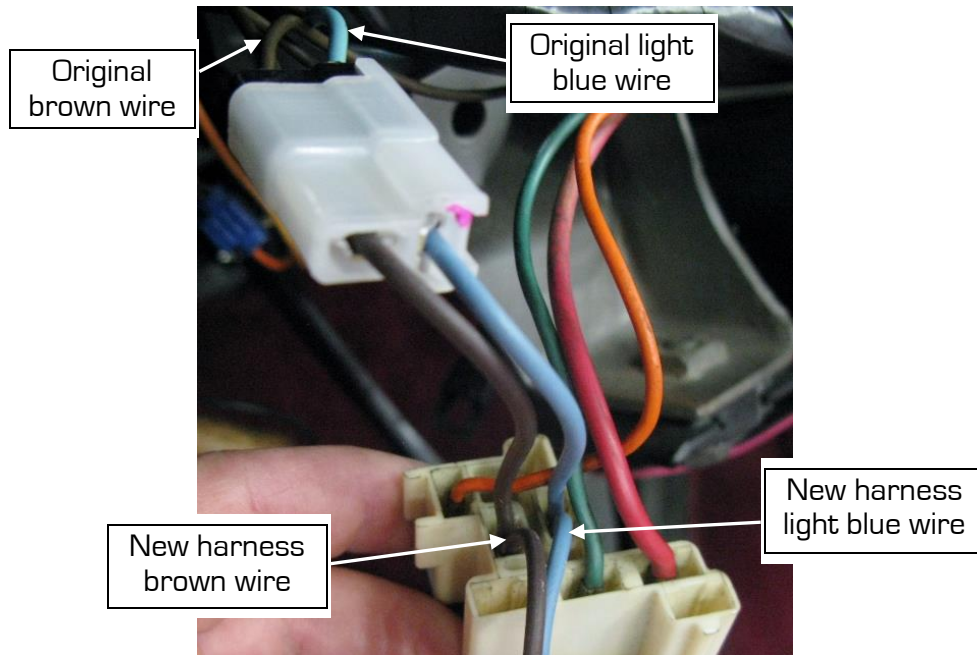

Figure 32 – Plug-In Headlight Connector (Mid C3)
34. Plug the black two-terminal female Packard connector into the clear two-terminal connector on the new harness (Figure 32). Make sure that the wire colors correspond with each other (light blue to light blue or yellow, brown to brown).